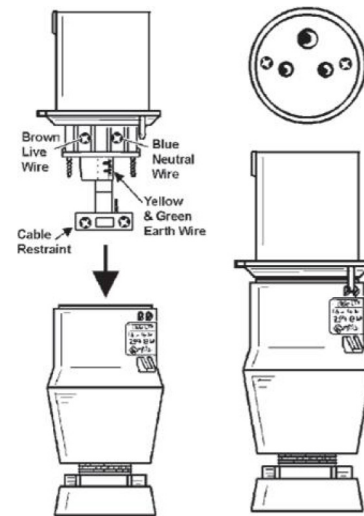

Fig.2
- Ensure that the power supply matches voltage requirements specified on the equipment and that the plug is wired correctly and fitted with a 16A fuse (See **Fig.2**).